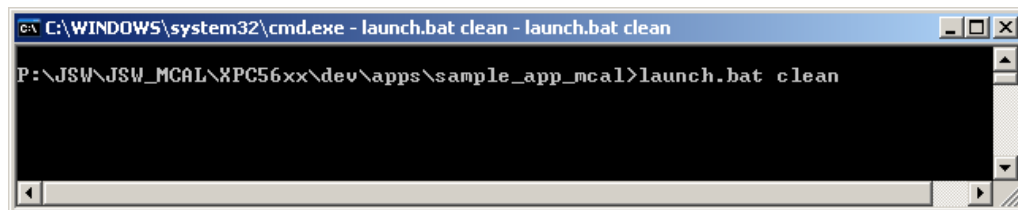

Figure 5-3. Cleaning the Sample - Launch Clean Command
3. To clean the object and linker output files, execute the following command to run *launch.bat* file as shown in Figure 5-3. Cleaning the Sample - Launch Clean Command